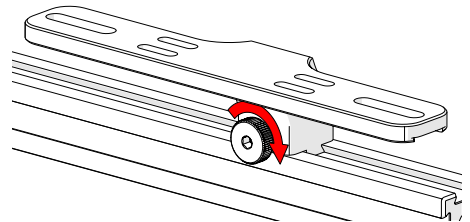

Fig. 99 - Tighten knob
2. Tighten the knob to lock the preamp bracket in place (Fig. 99).